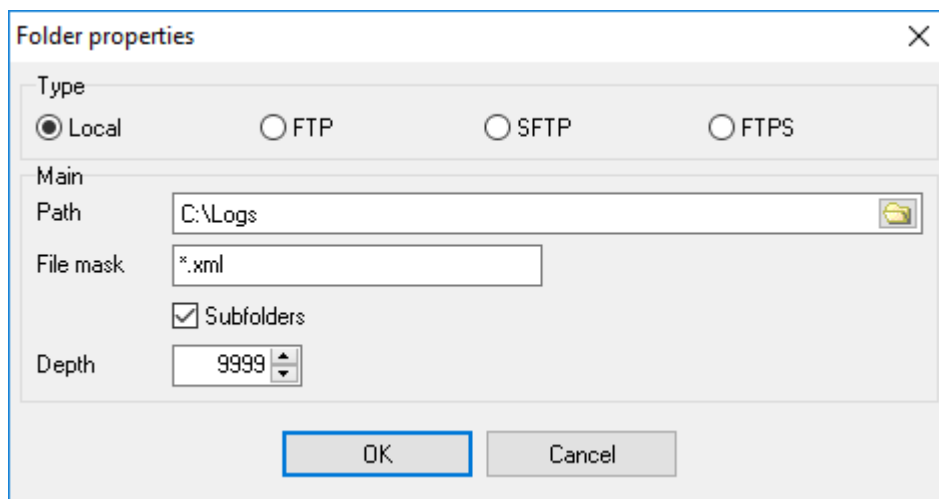

Fig. 2.6.3 Folder properties
**Add ...** - the item allows you to add a new folder to the list. After you select this item, you will see the Folder Properties dialog box on the screen (fig. 2.6.3). Specify the folder properties, click the OK button and the folder will appear in the list. If you change your mind, click Cancel.
**Edit ...** – the item shows the "**Folder properties**" dialog box (fig. 2.6.3). Change the folder properties and click OK to save them. If you change your mind, click Cancel. The item is not available if the list is empty.